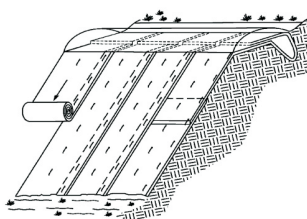

Fig. 1 Installation on slopes
- Unroll blanket down slope in the direction of the water flow (see Fig. 1). The blanket should not be stretched but should have full contact with the soil. Anchor blanket using staples or stakes. See "Staple Pattern Guide for Slopes" on the right.